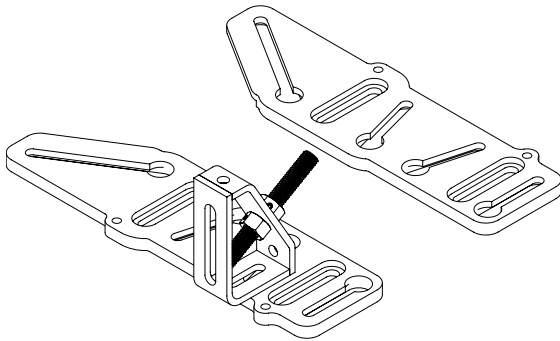

Figure 2
3. Using hardware included with HW93718, loosely attach third wedge, with adjustable support rod, to transmission jack lifting plate as shown in Figure 2.